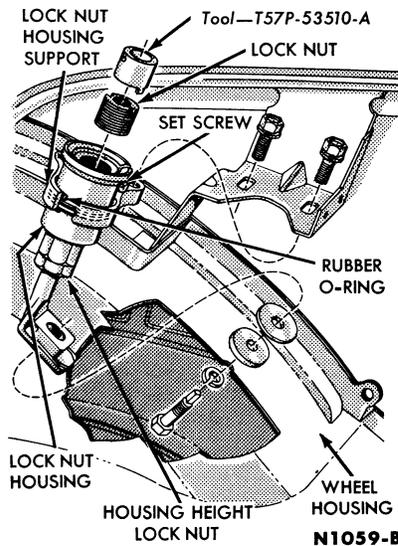

FIG. 18—Deck Lid Lock
2. From the underside of each wheelbase, remove each deck lid lock retaining screw (Fig. 18).